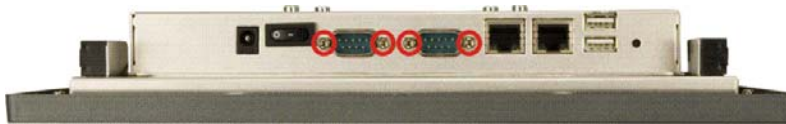

Figure 4-11: Four Hexagonal Pillars on the Bottom Panel (AFL-12A-LX)
Step 2: Remove the four hexagonal pillars on the bottom panel (**Figure 4-11**).